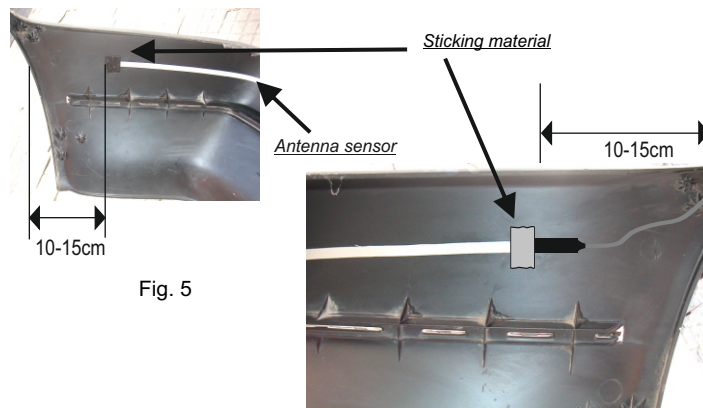

Fig. 5
B- Fix through its adhesive the black connection module of the data cable on the inner surface of the bumper, starting from approximately 10-15 cm away from the end of the bumper (fig. 5).
1) It is important to start and finish the application of the tape to about 10-15 cm from both ends of the bumper (fig.5).